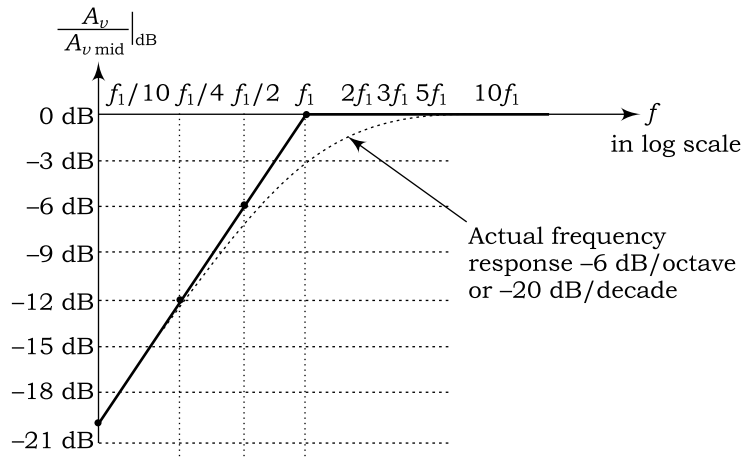

Fig. 3.111 Bode plot of RC circuit in low-frequency region
The plot of the above values is a straight line. For $f \gg f_1$, a straight line is obtained only for 0 dB value. Hence the low-frequency response can be obtained only when $f \ll f_1$. At $f = f_1$ there is 3 dB drop in gain. From the Fig. 3.111 we can say that
2. For a 10:1 change in frequency (equivalent to 1 decade), there is a 20 dB change in the ratio. The frequency change from $\frac{f_1}{10}$ to f_1 is clear from Fig. 3.111.